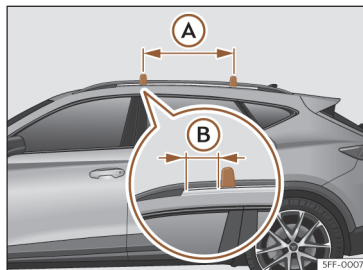

Fig. 195 Attachment points for the roof railings for the roof carrier system.
The crossbars are assembled on the roof railings. The distance between crossbars >>> Fig. 195 (A) should be between 70 and 90 cm and the distance between the crossbars and the brackets of the roof railings (B) must be 9 cm.